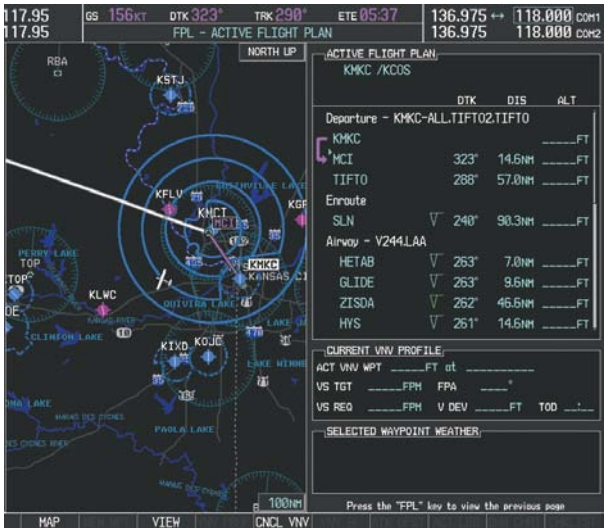

Figure 7-12 Assigned Heading of 290°
- 3) ATC now assigns routing to join V4. A heading of 290° is assigned to intercept V4. The aircraft turns to heading 290° as seen in Figure 7-12.